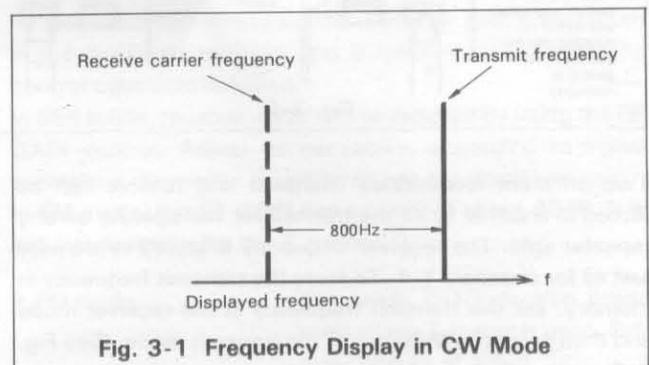

Fig. 3-1 Frequency Display in CW Mode
2. In CW mode, the frequency display indicates the receiver carrier frequency. Transmit frequency is 800Hz higher than displayed. (Operating frequency is 800Hz higher than displayed when receiving an 800Hz beat note.) (See Fig. 3-1).